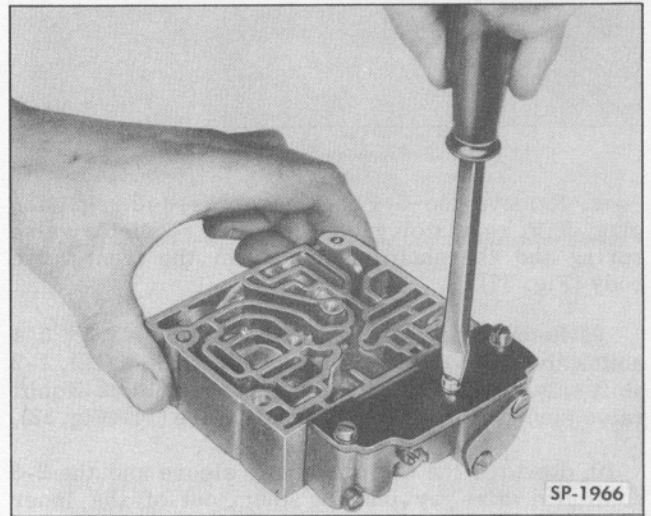
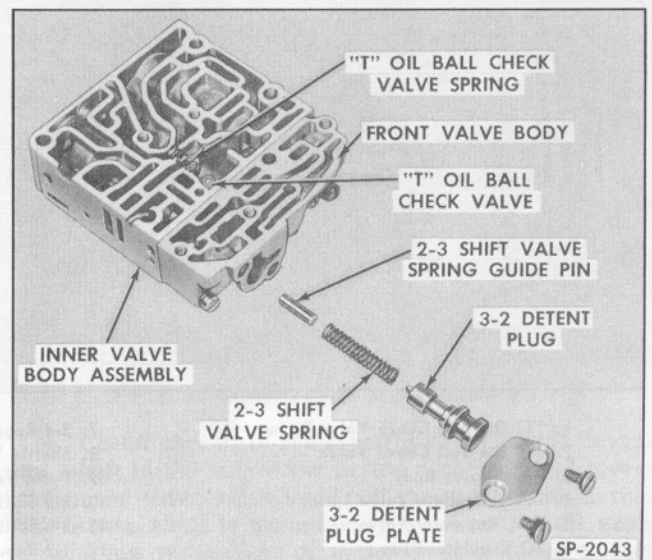

Fig. 34—Removing Front Valve Body Plate
Fig. 35—Disassembled View of 3-2 Detent Plug
5. Remove the front valve body plate to inner valve body attaching screws (Fig. 34) and remove the front valve body plate, the "T" oil ball check valve and spring (Fig. 35).
6. Remove the two screws and the 3-2 detent plug plate and remove the 3-2 detent plug from the front valve body (Fig. 35).